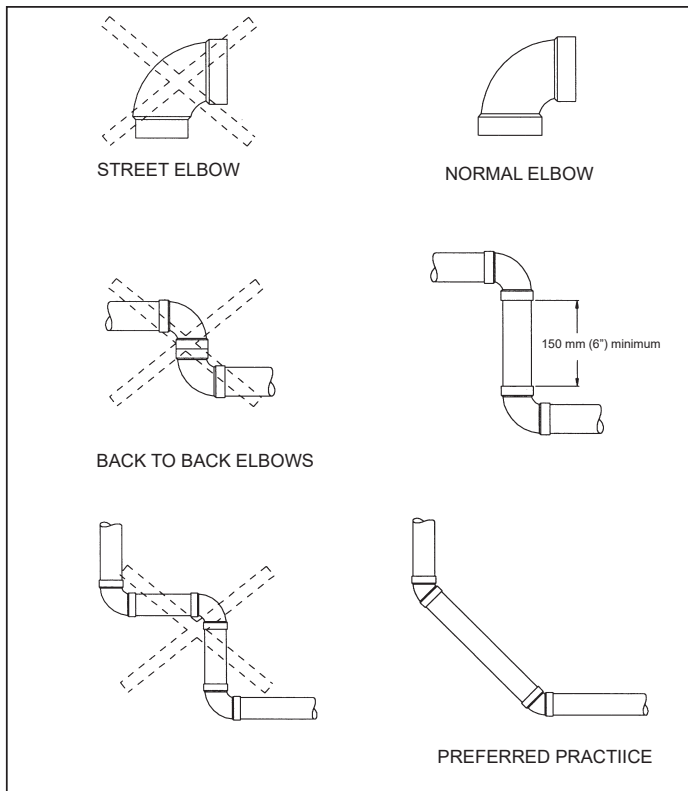

Figure 12. Vent Pipe Elbow Use
- Maintain a minimum 6" straight section between elbows. Closely coupled and short radius elbows reduce the venting capacity. *Figure 12* (page 20) shows examples of vent pipe connections.